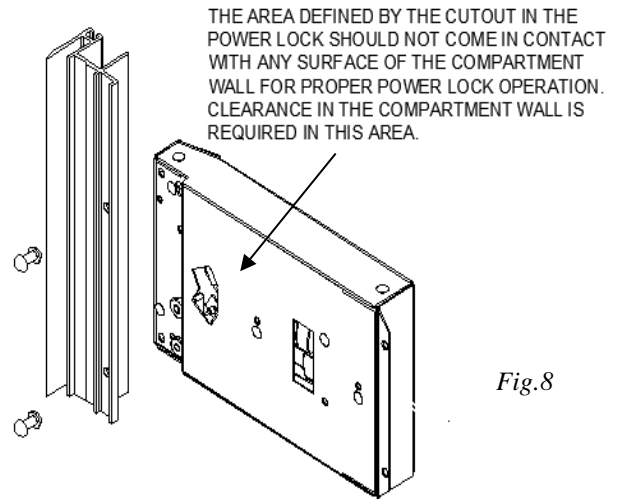

Fig. 8
- Mount the power lock to the track if not factory installed. The track will be pre-drilled and slotted for the power lock. Mount the lock using 3/16" pop rivets as shown in Fig. 8. Recessed track will have mounting brackets for the power lock to be mounted to.